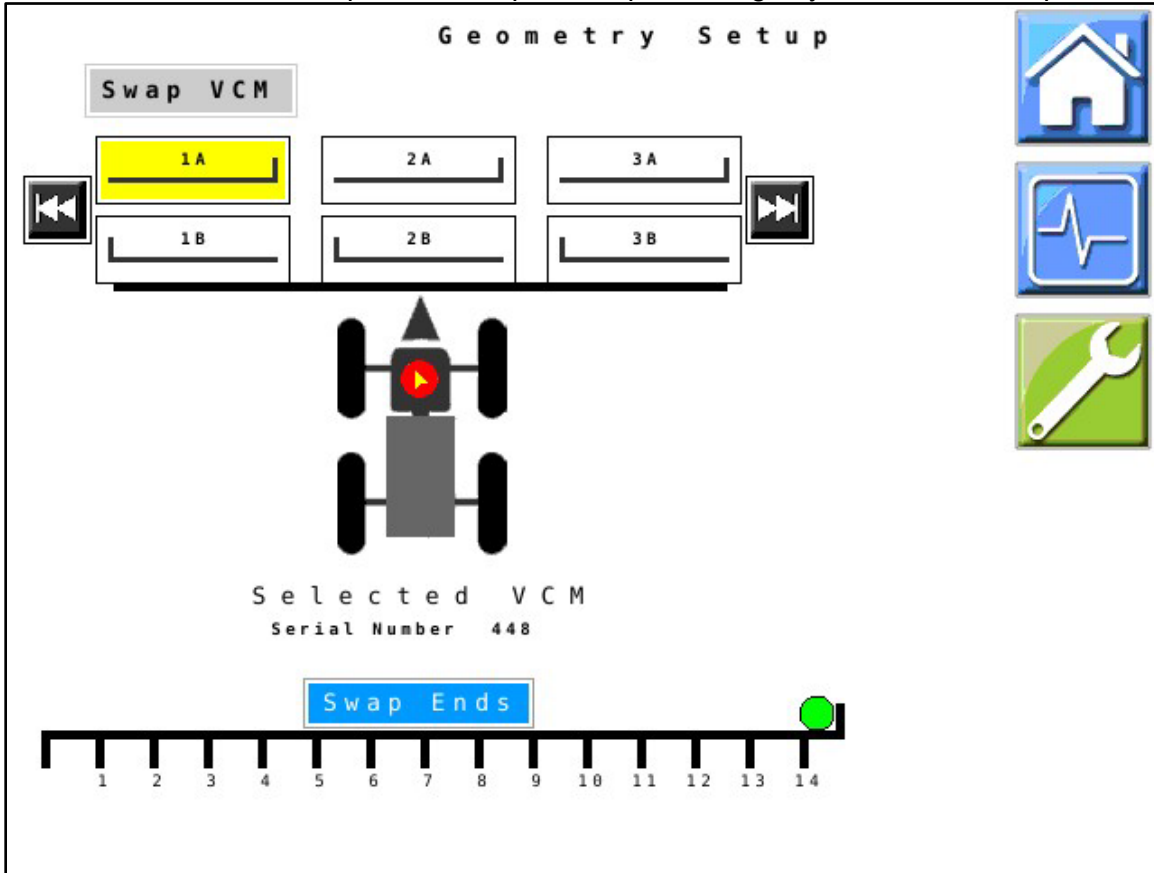

Figure 5 — Geometry Setup – Legacy VCMs
8. **Figure 5:** VCMs must be in the correct order and orientation on the boom. Tap the **Swap Ends** button with the highlighted VCM to orient the VCM correctly on the boom, if necessary. VCMs can be mounted with the tube towards the center of the machine (**green dot**) and the pigtail running towards the outside tip, or vice versa. If two VCMs are located on the same hub CAN channel, use the **Swap VCM** button with these VCMs highlighted to orient them correctly left to right, and then make sure the orientation (swap ends) is correct.